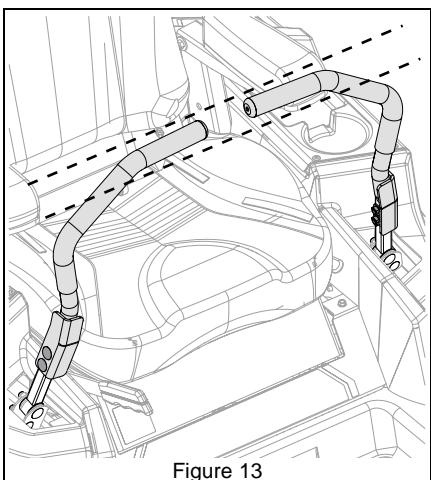

Figure 13
6. Align levers. See *Adjust Steering Levers* on page 33. See Figure 13.